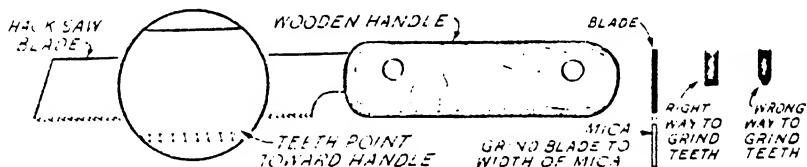

FIG. 7 - MICA UNDERCUTTING TOOL
**COMMUTATOR AND COLLECTOR RINGS.** - The mica insulation between the commutator bars, or segments, was originally undercut to a depth of  $1/32$  inch below the commutator surface. After a long period of service, the surface of the commutator may become worn down level with the mica. This condition would cause noisy brushes, sparking of the brushes, and pitting of the commutator. The mica should again be undercut to  $1/32$  inch depth. Remove the brush springs and pull all the brushes out of the guides. After tagging any leads disconnected (to assure correct reconnection) remove the end bell. With a mica undercutting tool, or an improvised tool fashioned from a hack saw blade (Fig. 6), carefully cut the mica between all of the commutator bars down to the  $1/32$  inch depth. Use care to avoid scratching the surface. Remove any burrs which may be formed along the edges of the bars, and clean all spaces between bars completely free of any metallic particles, Fig. 7.